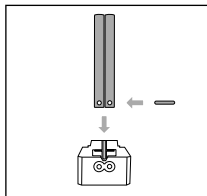

Fig. 2
- ◆ Take two guide rods **7**, with the rounded side facing each other, and push a spacer rod **14** into both guide rods **7** (see fig. 2).
- ◆ Insert the two guide rods **7** into cutting guide element A **9** (see fig. 2).